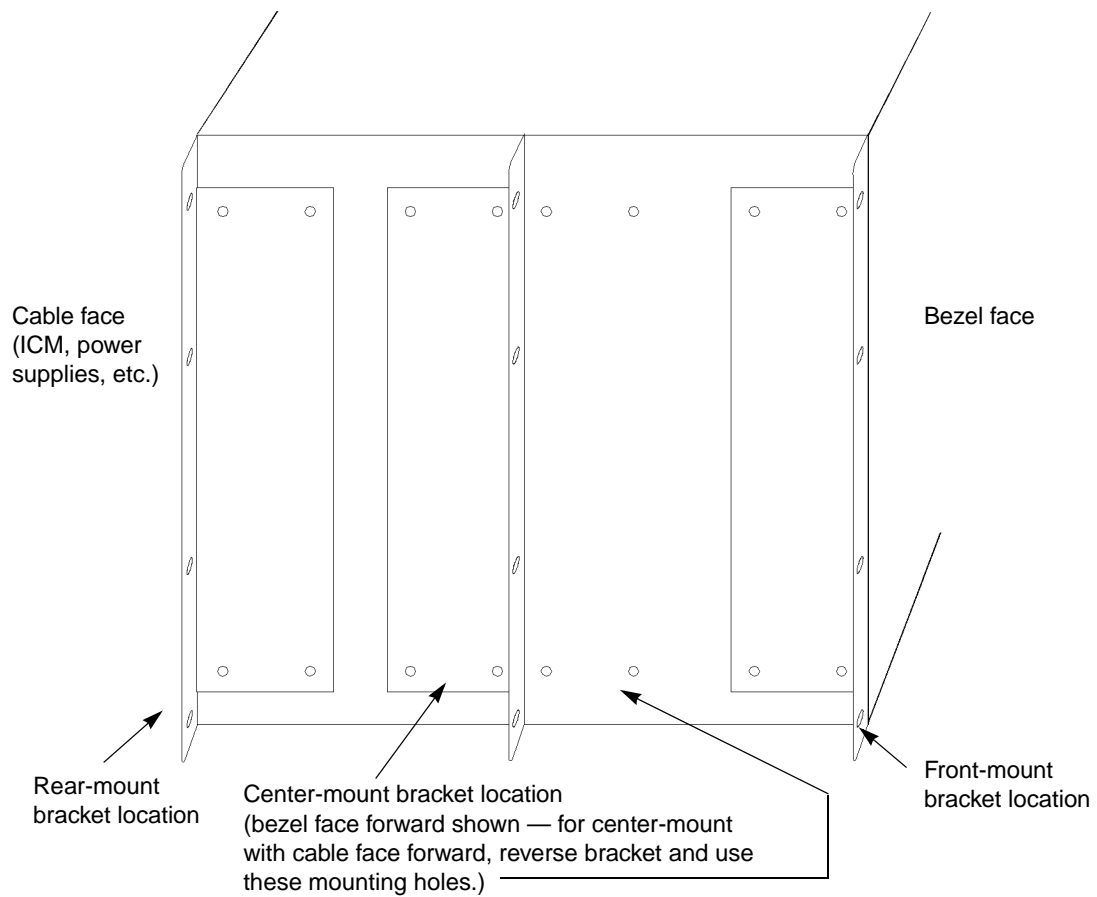

Figure 4-13. Bracket Locations (19-inch Brackets Shown)
4. Use the flathead Phillips screws supplied in the bracket kit to attach the brackets to each side of the SA 1200 at the locations illustrated in **Figure 4-13**.